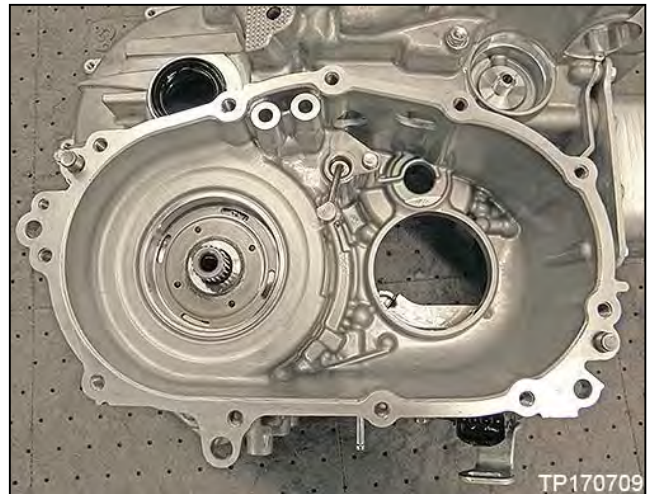

Figure 129
99. Reposition the CVT on the work bench with the torque converter housing side facing down (Figure 129).